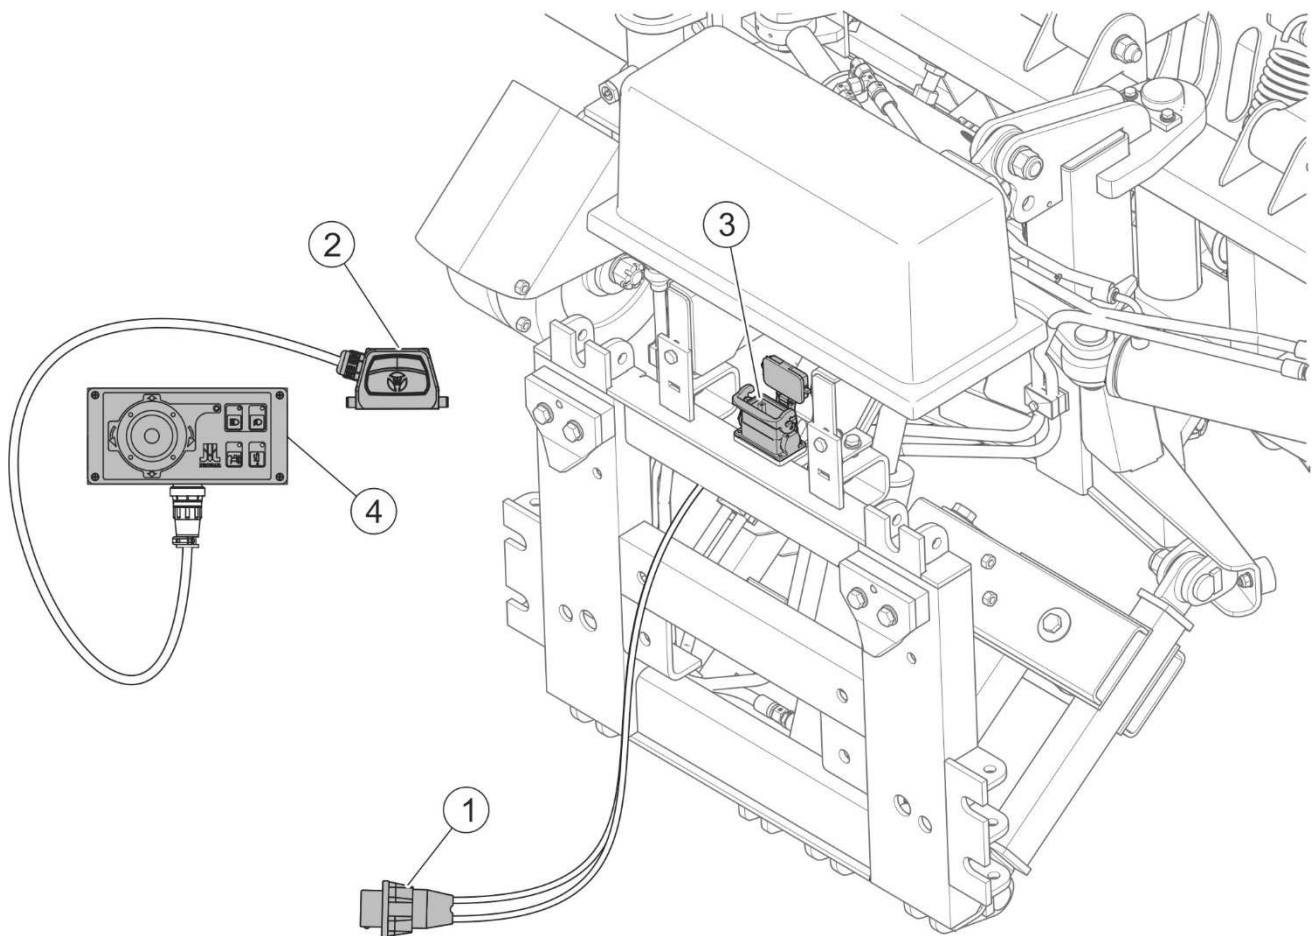

FIGURE 4.6 Connecting the snowplough's hydraulic system and electrical system
The snowplough's power supply plug (1) (FIGURE 4.6) should be only connected to the socket of the power supply wiring harness installed on the carrying vehicle (FIGURE 4.3). The snowplough's mouldboard and lights are controlled by means of the control panel (4), which should be connected to the snowplough's control socket (3).